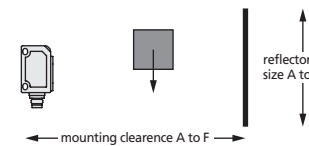

Fig. 6: Sensor/reflecter working clearance
- If the unobstructed 500 mm space cannot be provided or should the sensor be used in the «Two-way reflective barrier» mode, then a plane reflector at a specific distance to the sensor must be fitted (see Fig. 6). The size of the reflector and its working clearance from the sensor can be taken from the table in Fig. 7.